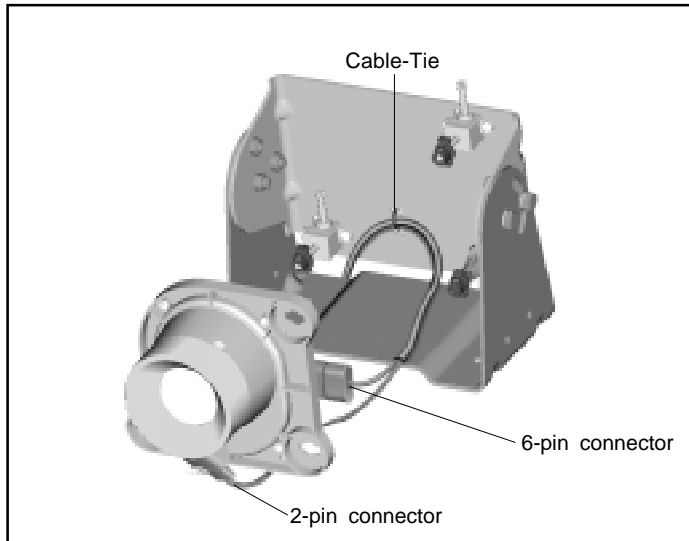

Figure 17 Connecting the Camera Harnesses
2. Plug the 2-pin connector of the camera harness into the window heater. Refer to Figure 17.
3. Plug the 6-pin connector of the camera harness into the camera connection. Refer to Figure 17.